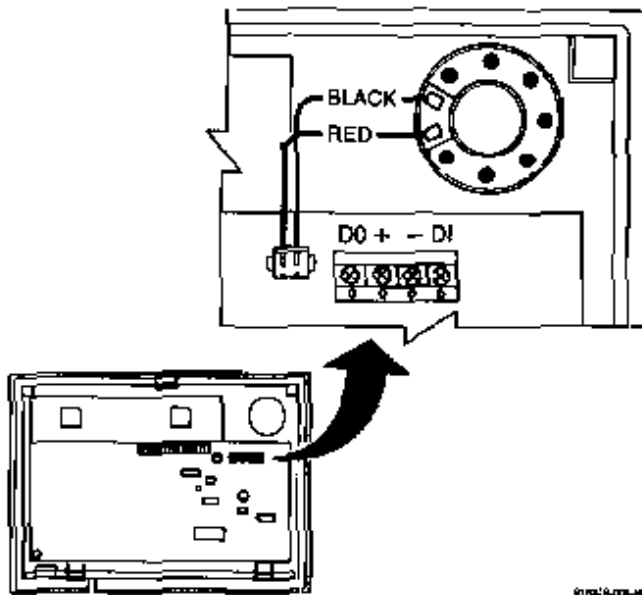

Figure 2
4. Wire directly from the keypad's terminal block (see Figure 2) to the terminal block on the control panel (see control's Summary of Connections label for correct terminal connections).